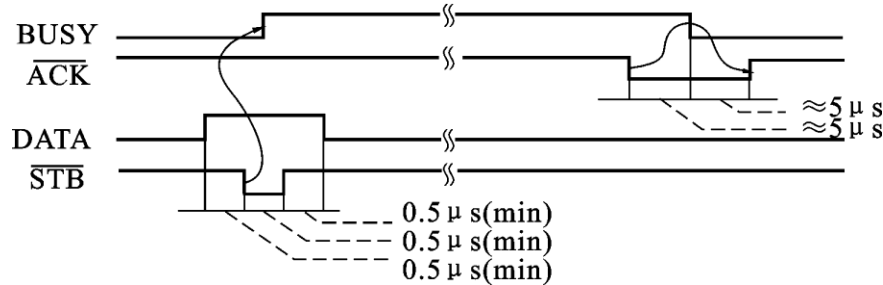

Fig.3-3
■ The timing chart for interface signal of parallel interface is as Fig.3-3 shows: